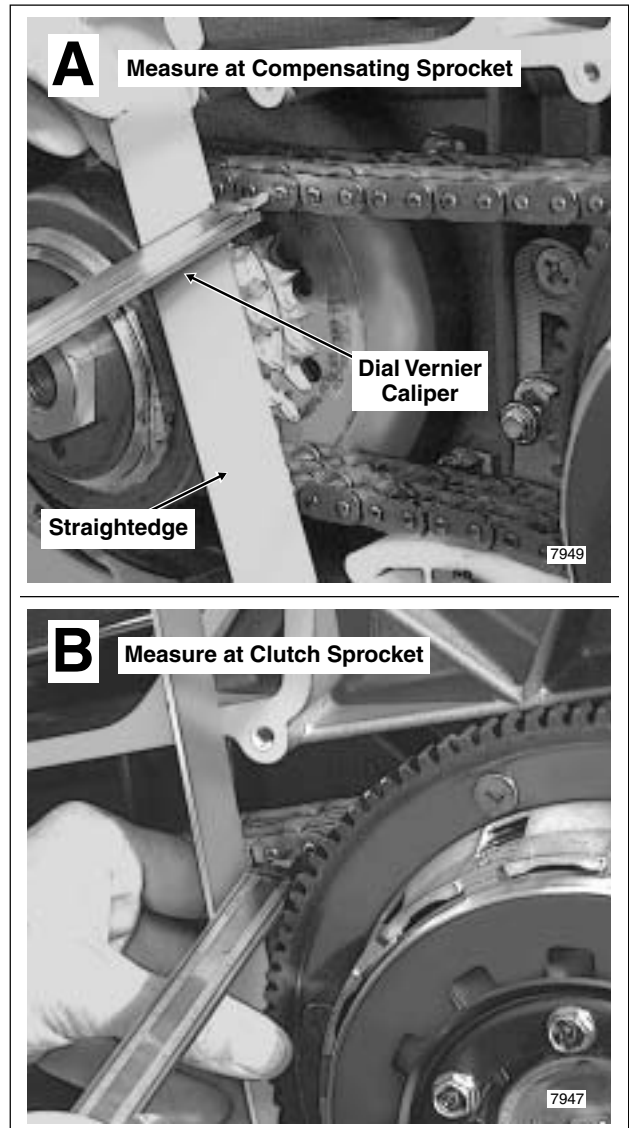

Figure 6-4. Check Sprocket Alignment
4. Using a dial vernier caliper, measure the distance from the straightedge to the chain link sideplate. Measure as close to the engine compensating sprocket as possible and record the measurement. See A of Figure 6-4.
5. Repeat the measurement on the clutch sprocket side. See B of Figure 6-4.